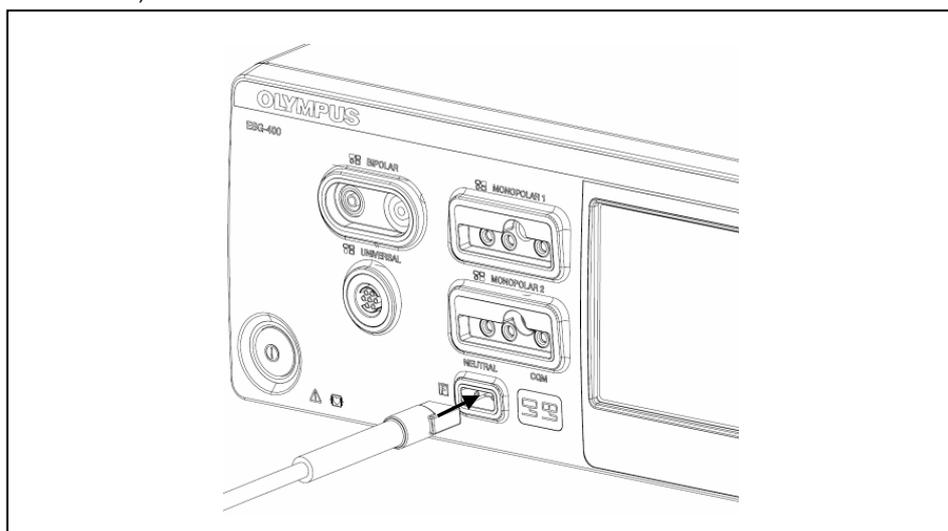
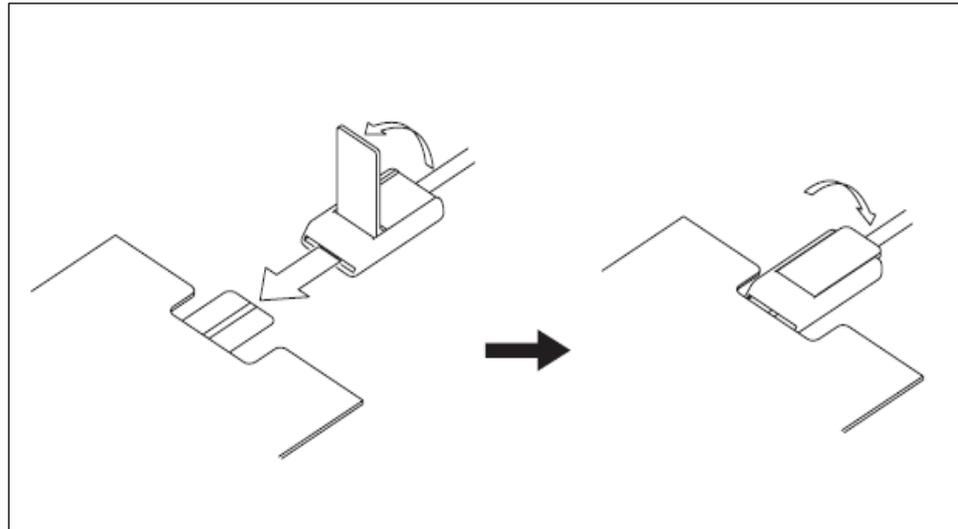

Figure 3.5
Figure 3.6
- For neutral electrodes with a pre-attached cable consider the following procedure: Insert the neutral electrode plug into the neutral electrode socket (suitable for 2 pin plugs with 2.5 mm pin diameter and pin spacing 10 mm, US standard) on the front panel of the electrosurgical generator (see figure 3.5).
- For neutral electrodes without a pre-attached cable consider the following procedure: Lift the lever-locking arm of the neutral electrode cable "P-cord", and then position the neutral electrode tab evenly between the clamp jaws. Lock the clamp by fully pressing down the lever-locking arm (see figure 3.6). Insert the "P-cord" plug on the electrosurgical generator side into the neutral electrode socket (suitable for 2 pin plugs with 2.5 mm pin diameter and pin spacing 10 mm, US standard) on the front panel of the electrosurgical generator (see figure 3.5).